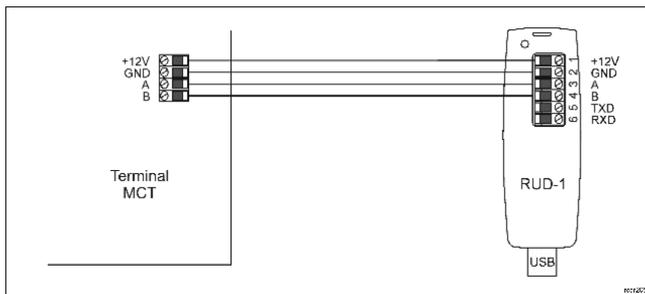

Fig. 1 Connection of MCT reader to RUD-1 interface
1. Connect the reader to RUD-1 interface (fig. 1) and connect the RUD-1 to computer's USB port.
The update requires connection of reader to computer with RUD-1 interface (fig. 1) and starting RogerISP software. The latest firmware file is available at [www.roger.pl](http://www.roger.pl).